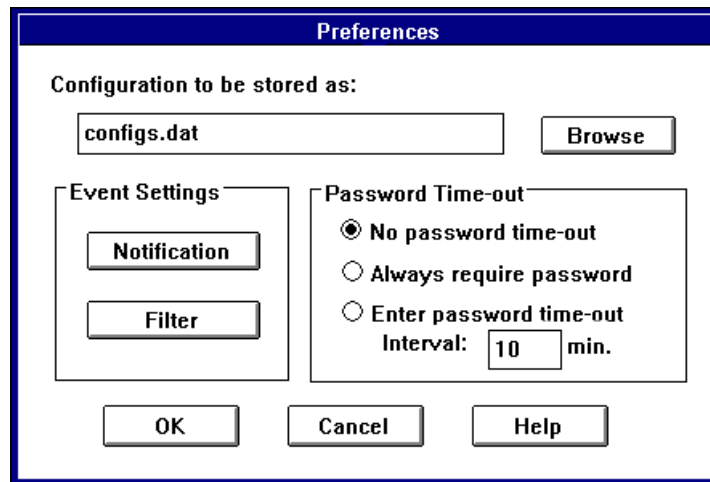

Figure 4-7. Preferences Dialog Box
- 1 Click the  button. The Preferences dialog box appears, as shown in Figure 4-7.